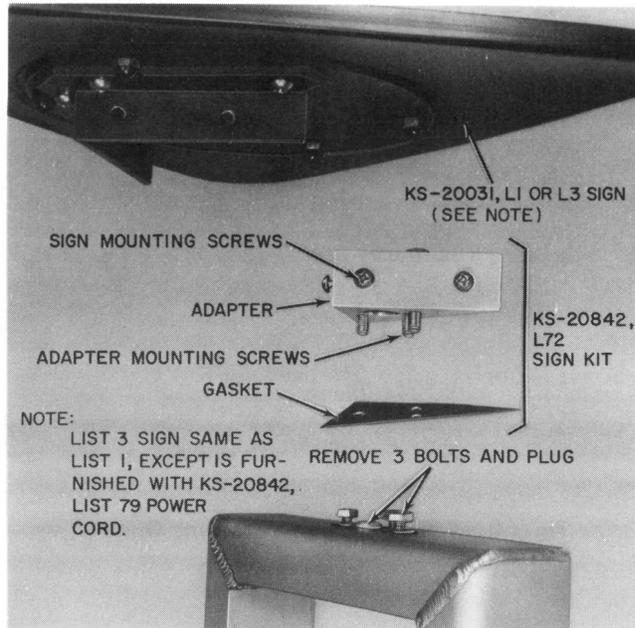

Fig. 27—Installation of KS-20031, List 1 or 3 Sign
- A KS-20842, List 72 sign kit is required (Fig. 27 and 28).
- 3.19 Install a KS-20031, List 1 or 3 sign on a KS-20842 telephone enclosure per Fig. 27 and 28.